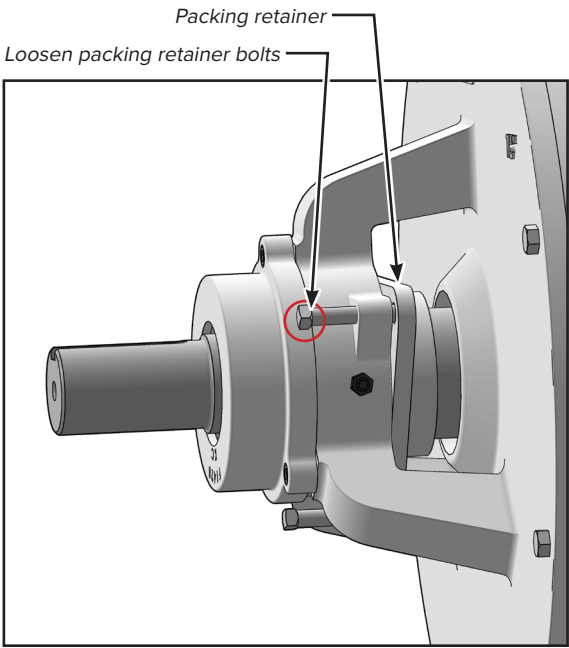

FIGURE 8
3. Loosen packing retainer bolts (figure 8).
4. Slide packing retainer out of the way towards bearing (figure 8) revealing the packing gland pocket.